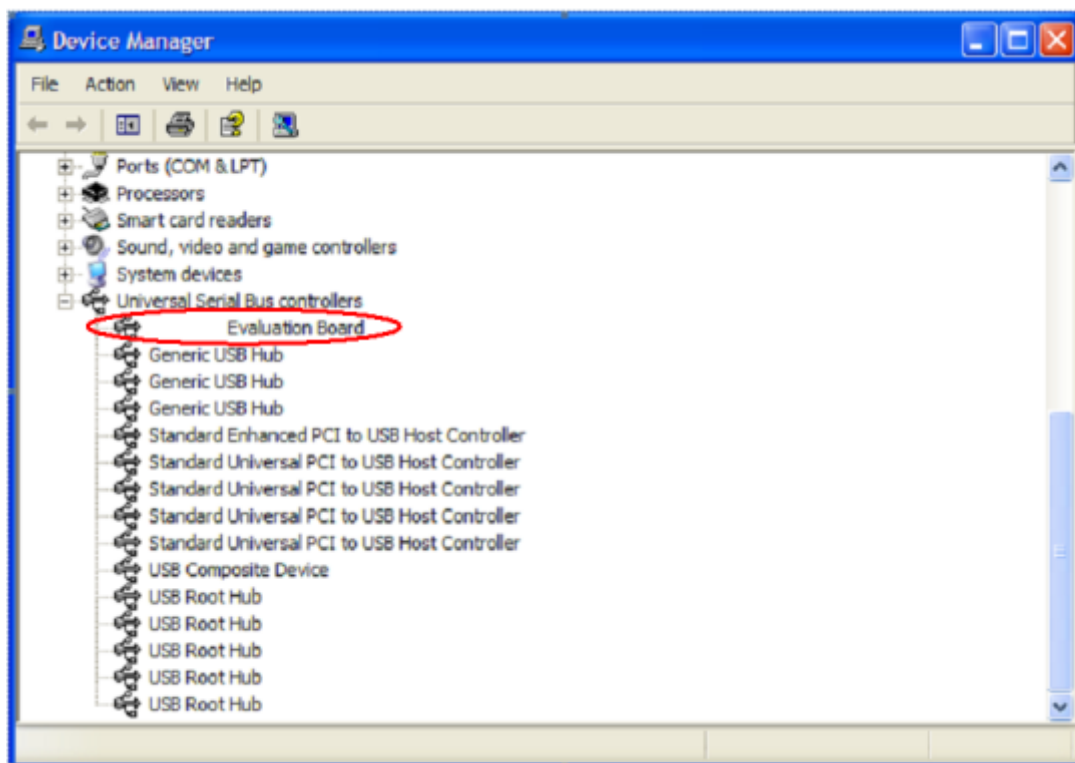

Figure 9. Verify Driver Installation
5. To verify that the USB driver is installed properly, click **Start**. Then select **Control Panel > System** and open the **Device Manager** (see Figure 9).